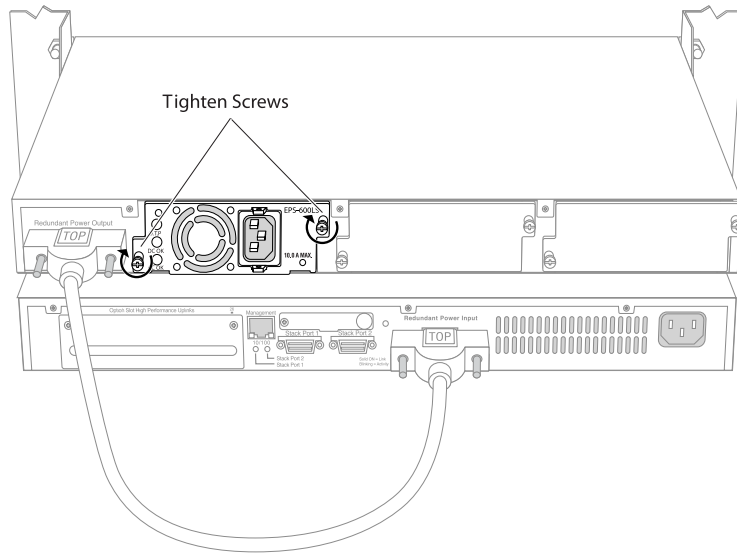

Figure 311: Securing the EPS-600LS to the EPS-C Chassis
- 3 Slide the unit completely into the chassis until the front of the EPS-600LS is flush with the surface of the EPS-C (see Figure 311: Securing the EPS-600LS to the EPS-C Chassis on page 339).
- 4 Align and tighten the captive screws to secure the EPS-600LS unit in place in the EPS-C (see Figure 311: Securing the EPS-600LS to the EPS-C Chassis on page 339).